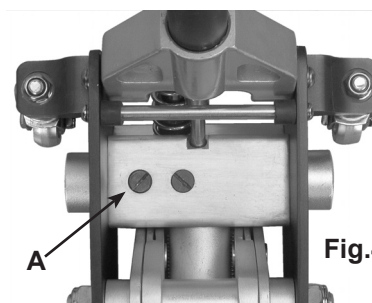

Fig.4
6.3.2 With the jack in the level position, remove the oil filler plug (Fig.4.A).